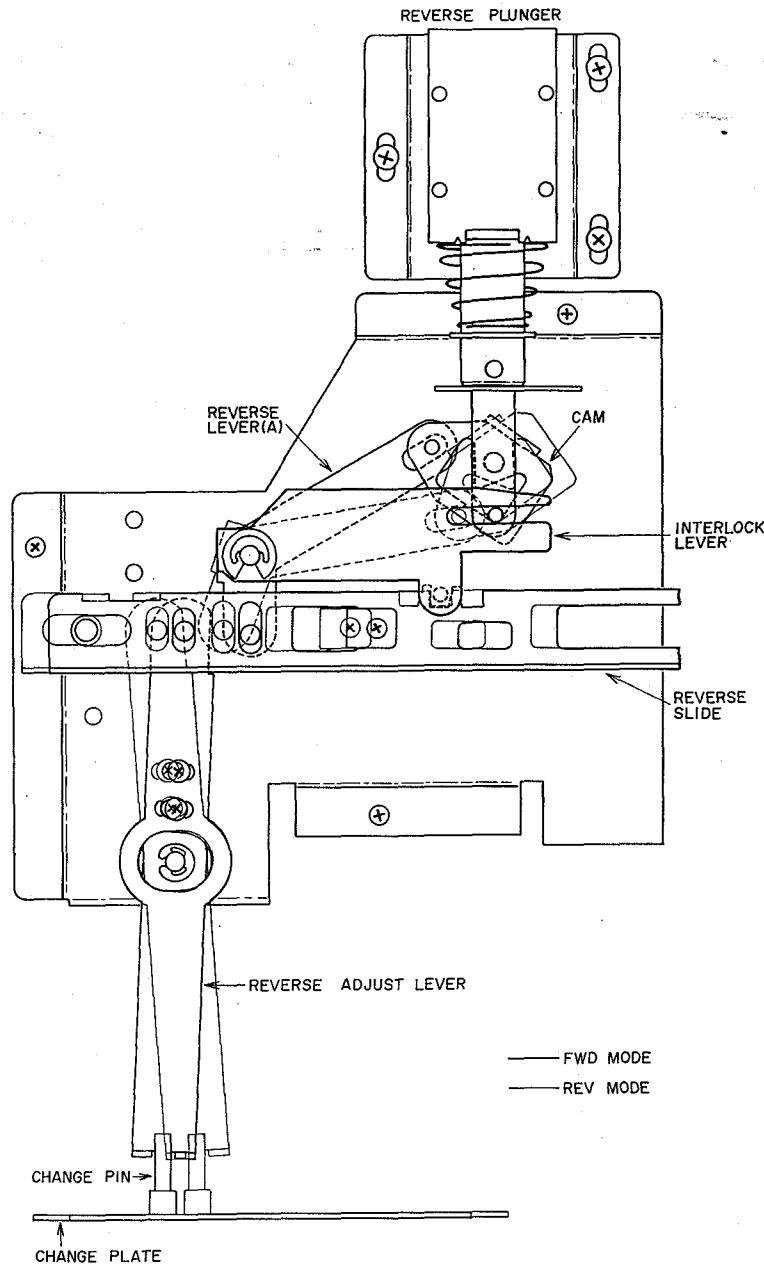

Fig. 4
1. Figures 4 and 5 indicate the position of each lever, etc. at FWD mode and REV Mode. The red lines show the changes positions when the Mode is switches to REV. The change from FWD to REV, or vice versa, is accomplished by depressing the Direction Switch or by the instantaneous movement of the reverse plunger when the leader tape is detected by the detector tape guide. (Refer to VI. Sys Con Operation: Explanation of the Reverse Plunger) The electrical system inverts by the reverse slide and the tape transport system inverts by the reverse adjust lever.
3. In the REV Mode, the Change Plate moves to the right as shown by the red line in Fig. 4 and the situation becomes quite contrary to that in the FWD Mode. The Take-up Idler(R) is separated from the reel table(R) and Take-up Idler(L) goes in contact with the reel table(L) so that the tape is taken-up in the REV direction.
At the same time, Pin Pressure Plate(A) and (B) shift as shown by the red lines in Fig. 4. This causes the Pinch Roller(R) to separate from the capstan and the Pinch Roller(L) to come in contact with the capstan so that the tape is sent in the REV direction.